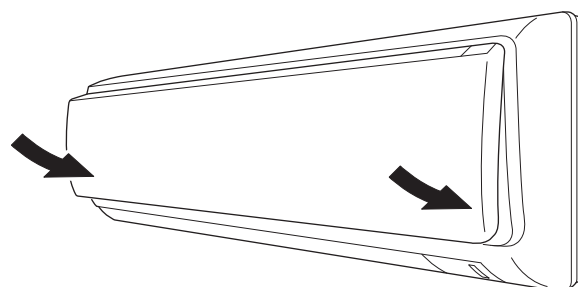

Fig. 19-3
- (6) Press the bottom right and left corners of the front panel to attach it to the indoor unit. (Fig. 19-3)